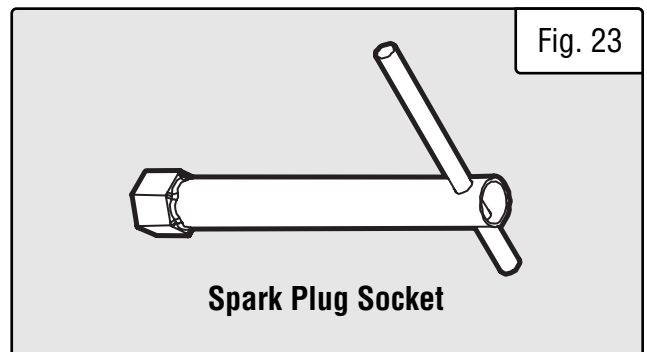

Fig. 23
2. Use the included spark plug socket (Fig. 23) to unscrew and then carefully remove the spark plug from the engine.